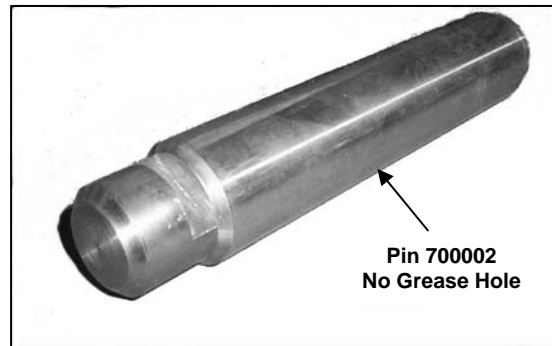
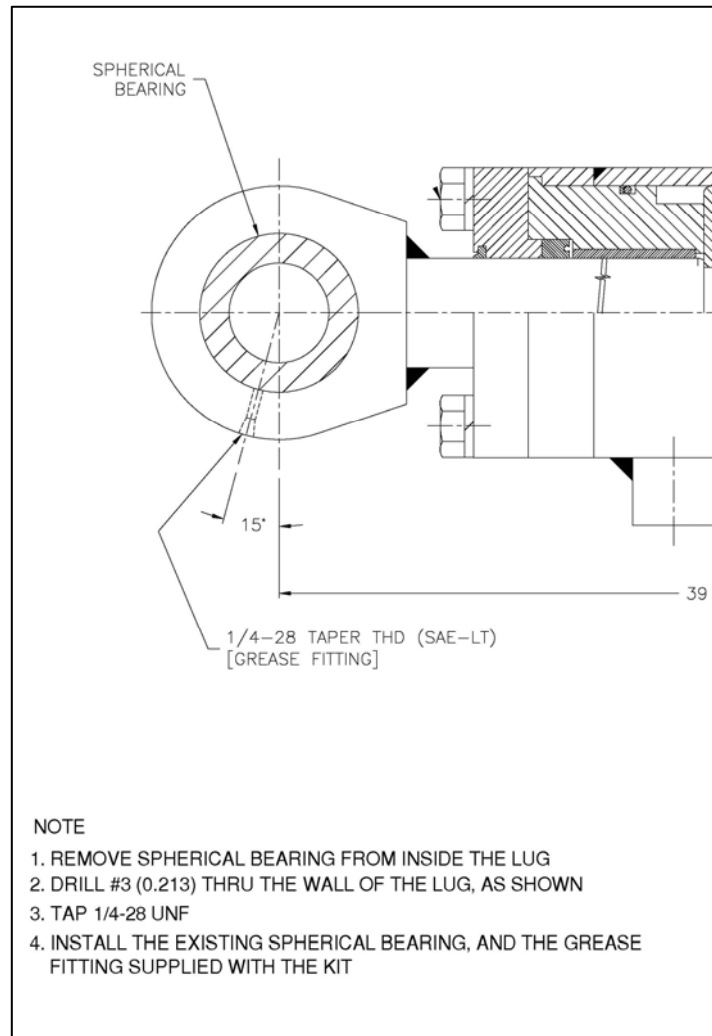

Figure 1
Figure 2
**ACTION:** The Wing Lift Cylinder Rod End Pin (B-4705-2) should be replaced with the new **Pin (p/n 700002)**. See Figure 1. The new pin is direct replacement for the original pin. However, the cylinder must be drilled to accept a **Grease Fitting (p/n 3801230)**. See Figure 2. The **Pin Field Replacement Kit (p/n 660057)** includes a Pin, Grease Fitting and clevis drilling instructions. Two kits are required per machine. The kit may be installed in about an hour.